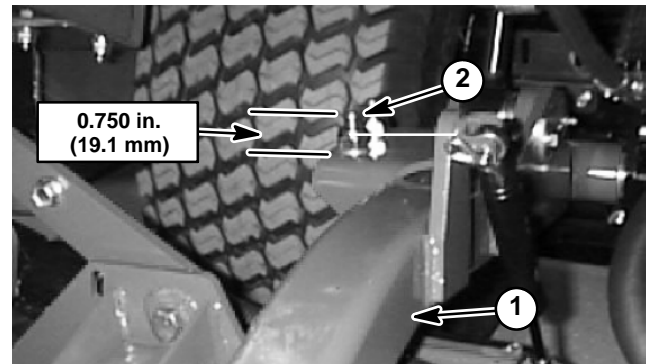

Figure 3
A. Assemble height-of-cut chain u-bolt so that threaded portion of u-bolt extends 0.750 in. (19.1 mm) above mounting plate on lift arm (Fig. 3).